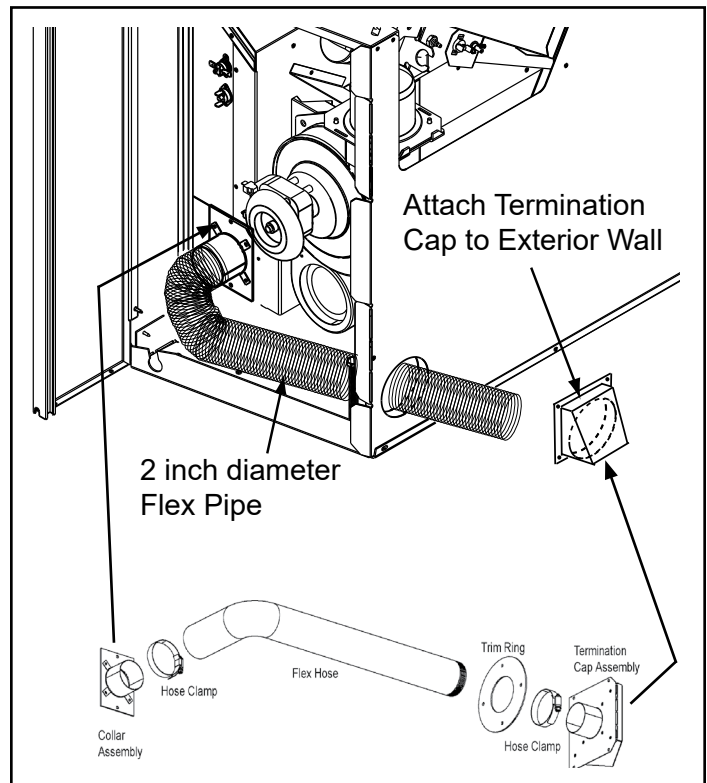

Figure 20.2
3. Use hose clamp to secure flex pipe to collar assembly (**Figure 20.2**).